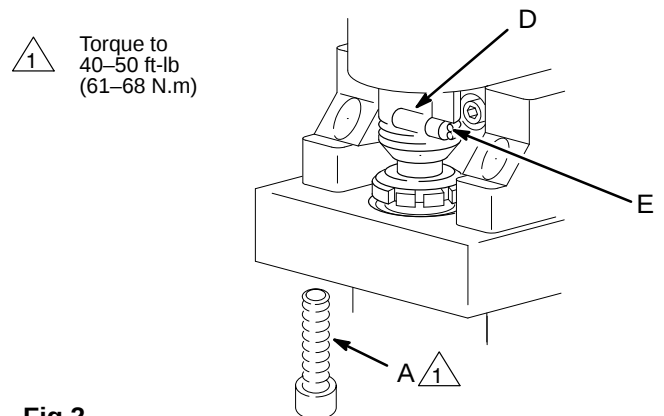

Fig 2
5. Models with RFI line filter only: Connect the pump to the sprayer, making sure the retaining spring (E) is securely around the pin (D). Tighten the screws (A) to 45-50 ft-lb (61-68 N.m). See Fig 2.